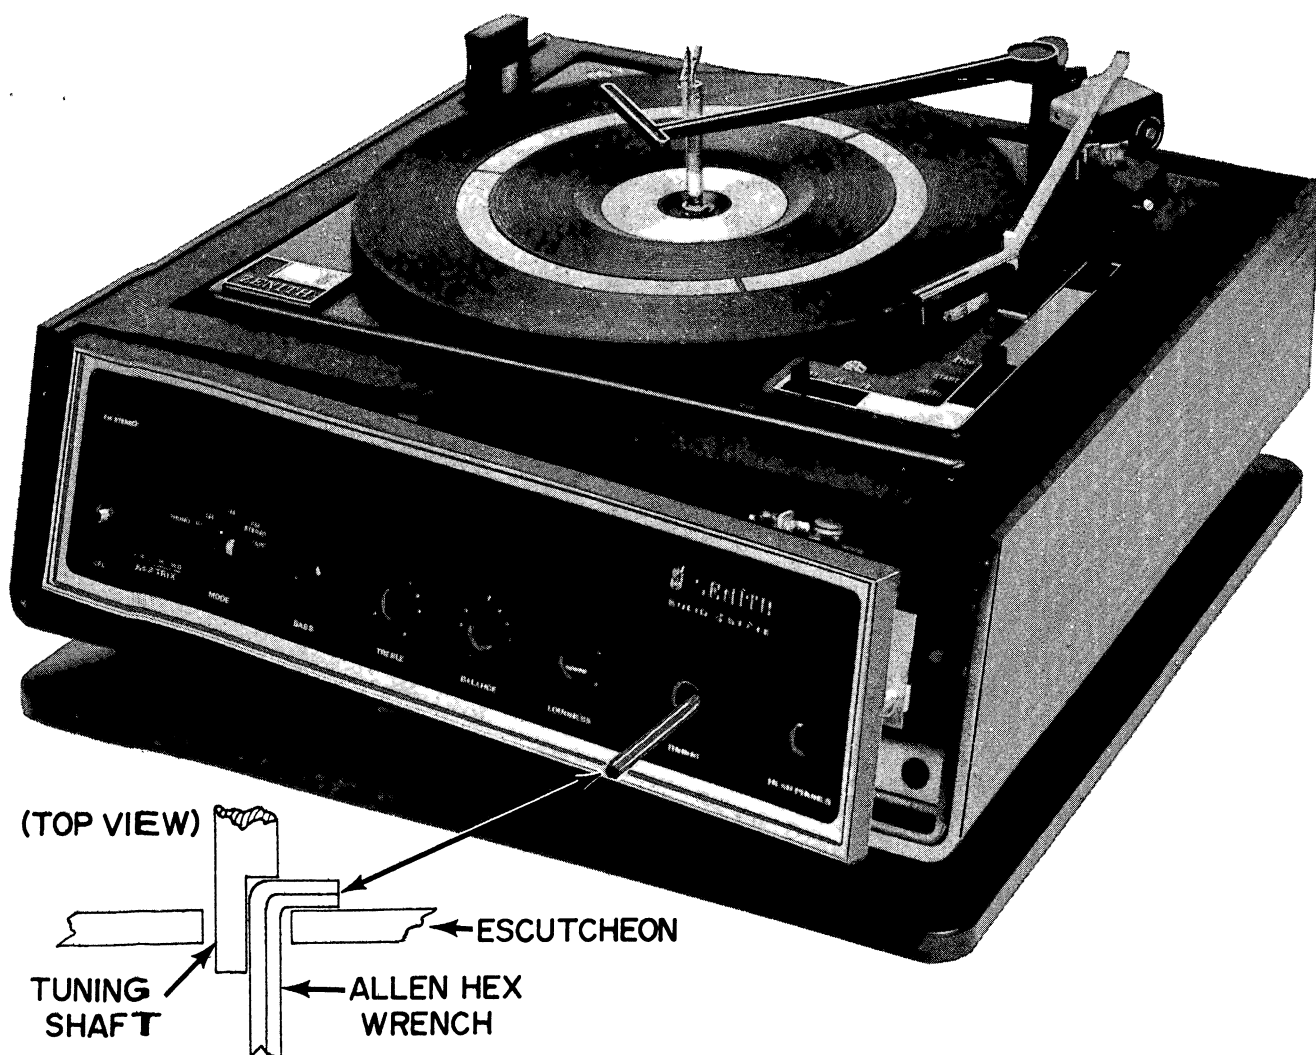

FIGURE 6 – ESCUTCHEON REMOVAL – GROUP "B"
Figure 6 illustrates the technique used:
3. Referring to the top view in Figure 6, insert the short end of a 1/8" (size may vary) "L" shaped Allen hex wrench between the shaft and the escutcheon.